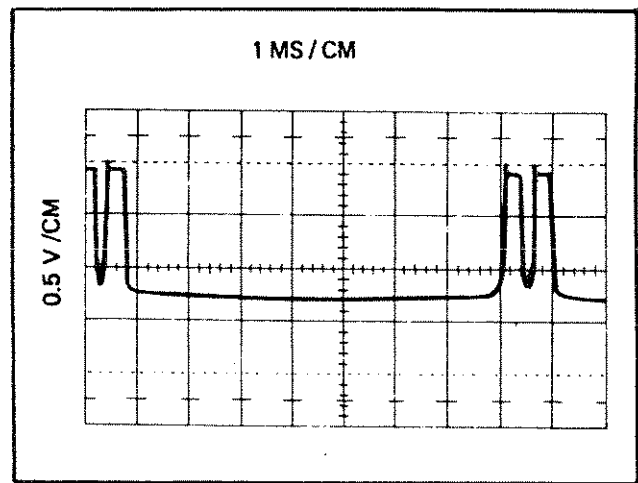

Figure 4-10. PRE - REGULATOR Q1, WAVEFORM ON STDBY/RESET
- c. Set the readout dials to 50.0000 and the POWER switch to STDBY/RESET. The oscilloscope waveform should appear as shown in Figure 4-10.